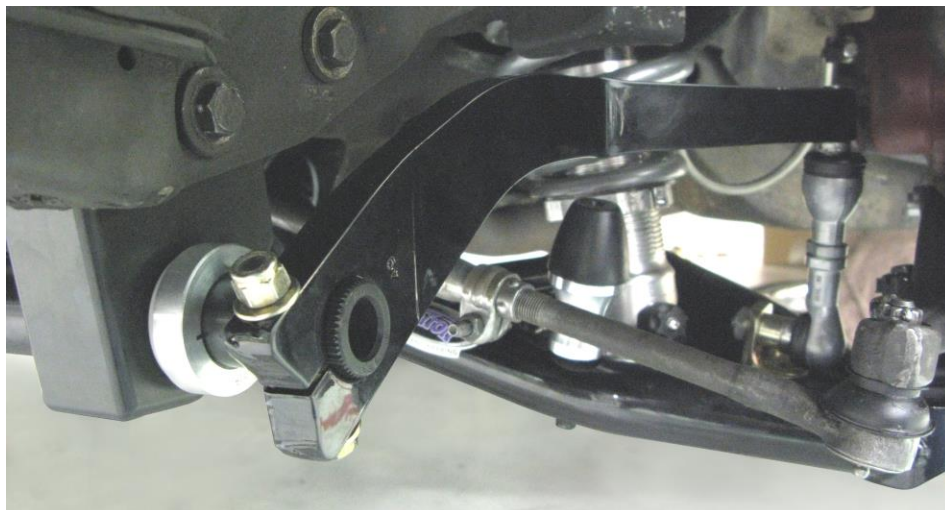

Figure 2 – Completed Installation
13. The installation is now complete. The completed installation is shown in Figure 2.